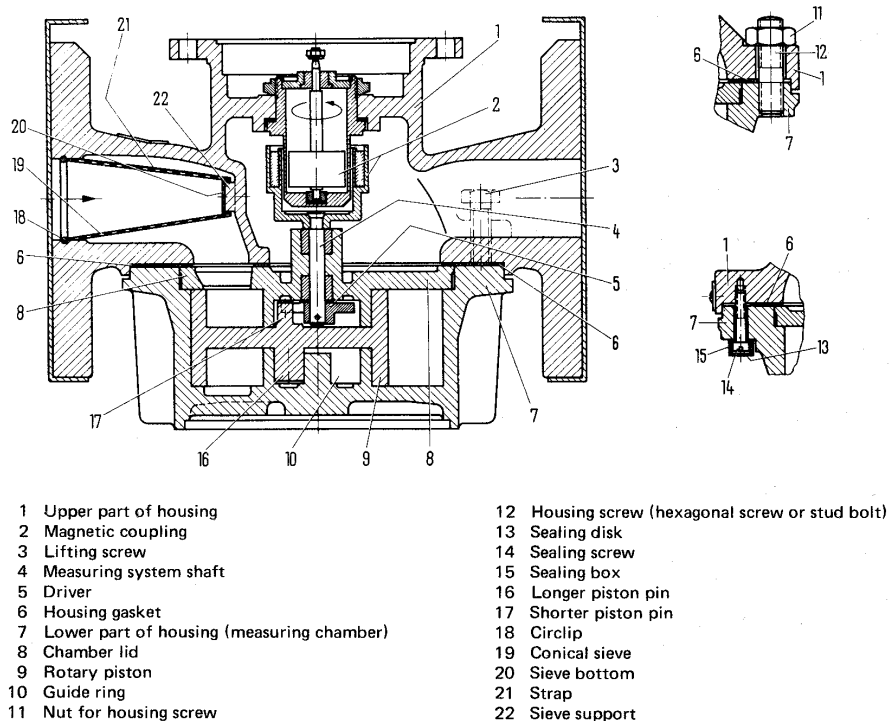

Fig. 3/1 Measuring system of rotary-piston meter DN 32, PN 10
The sieve (19, Fig. 3/1) can be removed from the inlet line for cleaning by releasing the circlip (18). The meter is ready for operation again after replacing both parts.
3.4 Cleaning the rotary-piston meter (Fig. 3/1)